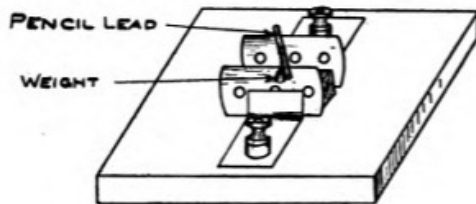
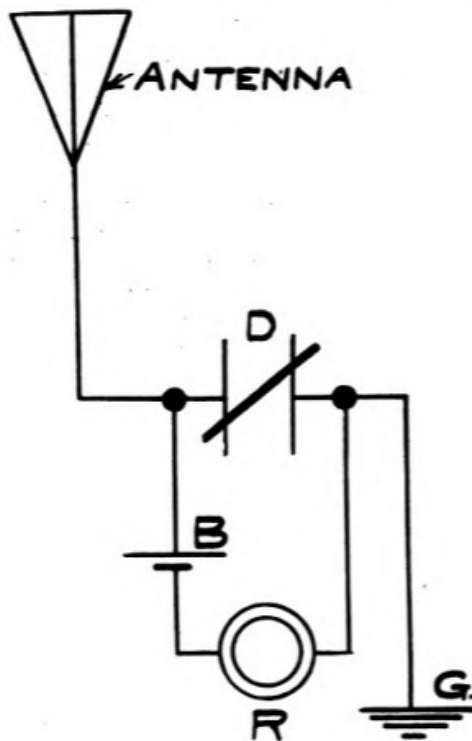

Fig. 1
Fig. 2
The two brass standards (c and b, Fig. 1), and the hard rubber are about the only things that are not found in the amateur's work shop. The standards may be cast at any brass works and finished by the experimenter. If all metal parts are well nicked the detector, in appearance, will repay the owner many times.
The standards are to be drilled and threaded, as shown in Fig. 1, for the adjustment screws (d and e), and the lock screws (h and i), 8-32 threads are to be used.
The standards (b and c) are to be bolted down to the base, with the brass bolts, as shown in Fig. 2. The pin (1) Fig. 2, is made of a needle or a small wire nail. The hole for the pin is drilled into the standard and the pin is inserted; the hole in the base is then drilled in such a manner as to bring the standards $\frac{3}{8}$ in. apart. While the standard is in the correct position mark the center of the countersunk hole for the brass bolt (2). Before bolting the standards to the base, the springs (j and k) are either soldered to (b and c) or fastened with two small screws. The holes in the bottom of the base to take the nuts of the bolts, and the screws for the binding posts, should be about $\frac{1}{2}$ to $\frac{3}{4}$ in. in diameter and $\frac{1}{4}$ in. deep.
There are several ways of connecting up the transmitting instruments, as in the case of the receiving instruments, but the writer gets the best results from the arrangement shown in Fig. 1.
The detector shown in Fig. 1 is made of two Gillette razor blades mounted on
Fig. 2 shows the connections of the detector. A telephone receiver and a dry cell are connected in series with the detector. One binding post of the de-
Many amateurs, especially in cities, are greatly bothered by induction from light and power lines; so much so, in fact, that in some cases they can receive from only very short distances. This induction may be almost entirely overcome by the use of a looped aerial connection. This aerial may be made as shown in Fig. 1, and the instruments connected as in Fig. 2. When using the usual "straightaway" aerial connection my receiving range was only about 100 miles, but by changing to the looped aerial connection shown in the figure I have heard several times stations about 1,000 miles away. The connection is equally good for silicon and electrolytic detectors. In the case of the former, however, the battery and potentiometer should be left out.